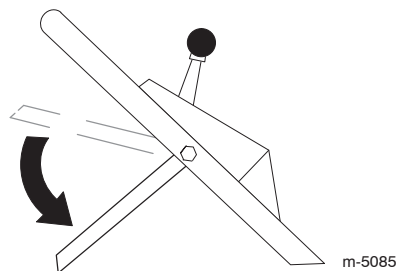

Figure 13
- Move the blade control bail down to its lowest position (Fig. 13).
3. Push the blade control bail (Fig. 13) down to its lowest position.